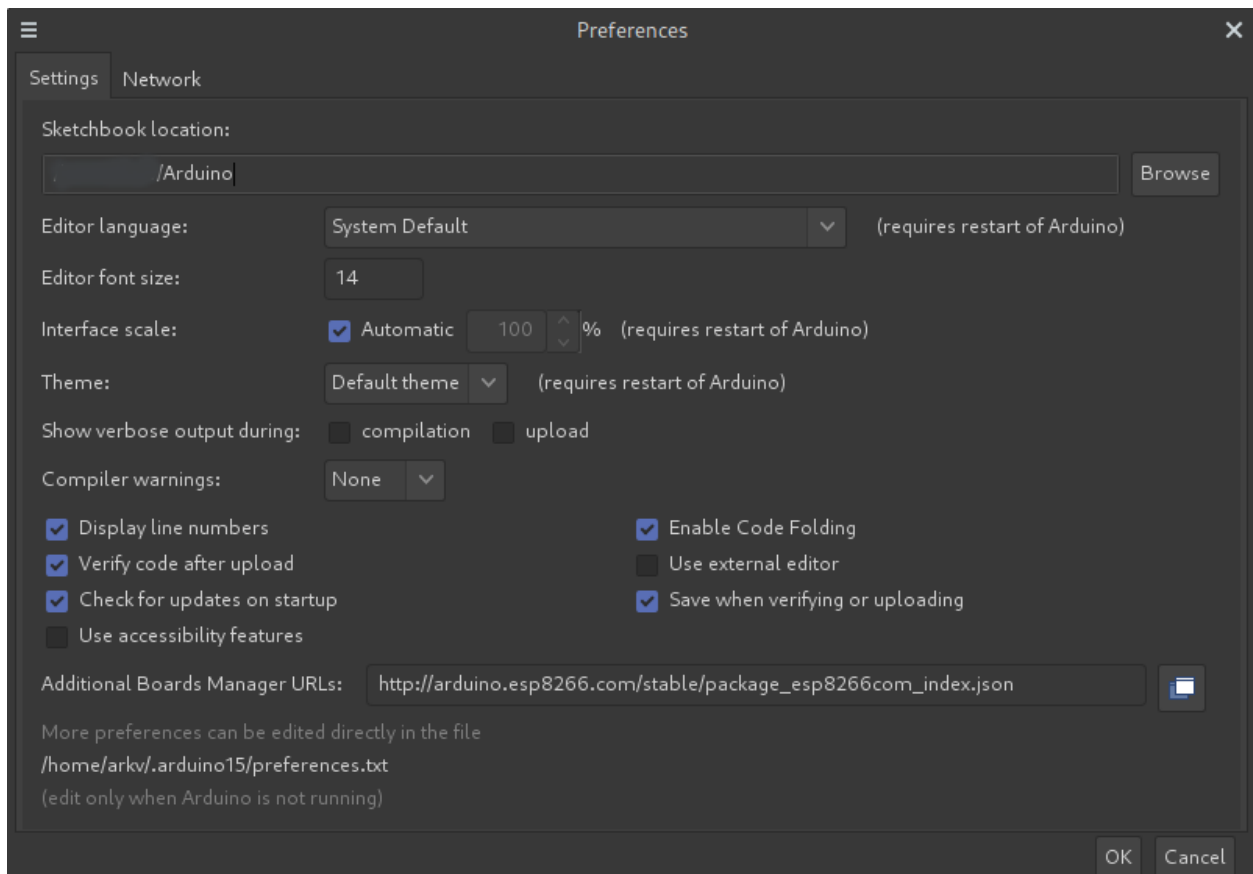

Figure 7x. Preferences window
- Open Arduino IDE select: `File -> Preferences` (see Fig. 7x).